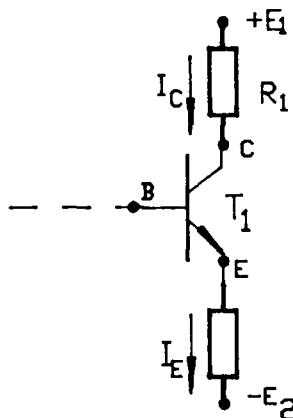
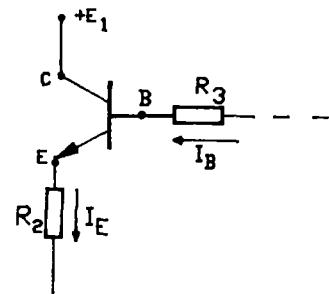
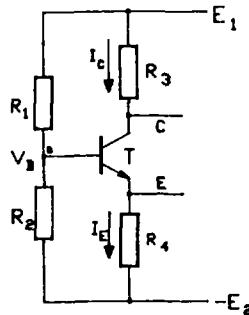

Fig. 6.1: Basic transistor stage
Fig. 6.2: Transistor stage with base resistor
Fig. 6.6: Basic transistor stage
Assume that the transistor of Fig. 6.1 is expected to be ON. All transistors in the amplifying part of an analog instrument should actually be ON.
If R_1 is not present, but there is a resistance in series with the base of T_1 , like in Fig. 6.2, then determine the currents through R_3 and R_2 and the $V(BE)$ voltage. If VBE lies in the same range as before and $I(B)$ is 10 to 100 times or more lower than I_E , then again T_1 works properly.
- a. While VBE falls into the correct range, I_C is much smaller than I_E (Fig. 6.1) or I_B is nearly equal to I_E (Fig. 6.2). (These symptoms are typical for a transistor where the base-to-collector junction is OPEN).
As a limiting case, a resistor can either be open-circuited or short-circuited. Table 6.2 describes what happens in the circuits of Figs. 6.1 and 6.2 with R₁ or R₂ either open-circuited or short-circuited.
TABLE 6.2: Failures in the circuit of Fig. 6.1 caused by resistors
What happens in the circuit of Fig. 6.2 if R₃ is open-circuited is described in Table 6.3.
TABLE 6.3: Failures in the circuit of Fig. 6.2 due to resistors
Consider now the common-emitter transistor connection of Fig. 6.4. Besides the faults depending on the R_1 , R_2 voltage divider and on T_3 that fall under the discussion developed for the circuit of Fig. 6.2, one has to consider now the problems related to a short circuit on C or R_3 . The relevant symptoms are:
The previously analyzed situations refer to elementary circuits, but the methods employed can easily be extended to more complicated circuits built up from these simple ones. The dotted lines in Figs. 6.1, 6.2, and 6.3 imply connections to other parts.
Sometimes an instrument undergoes a catastrophic failure, owing to which, in the individual elementary circuits like those of Figs. 6.1 through 6.4, more than one component may be damaged. There are so many possible combinations of faulty elements that troubleshooting may require a procedure-describing flowchart. A flowchart will be developed here with reference to a single transistor circuit of broad validity, the one shown in Fig. 6.6. To judge whether this circuit is properly operating or not, the voltages V_B , V_C , V_E are to be measured and compared with the nominal values:
Referring to the circuit in Fig. 6.6 immediately removes any doubt about whether the fault depends on the voltage divider or on the active device and associated resistors. If V_B is at its nominal value, the fault has to be attributed to the active device and/or to the R_3 , R_4 resistors.